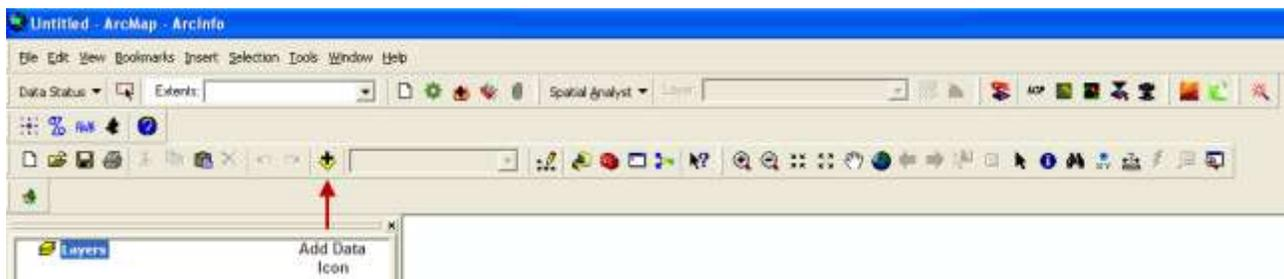

Figure 7-6. Adding data.
- Click on the **Add Data** icon to load input layers (fig. 7-6).